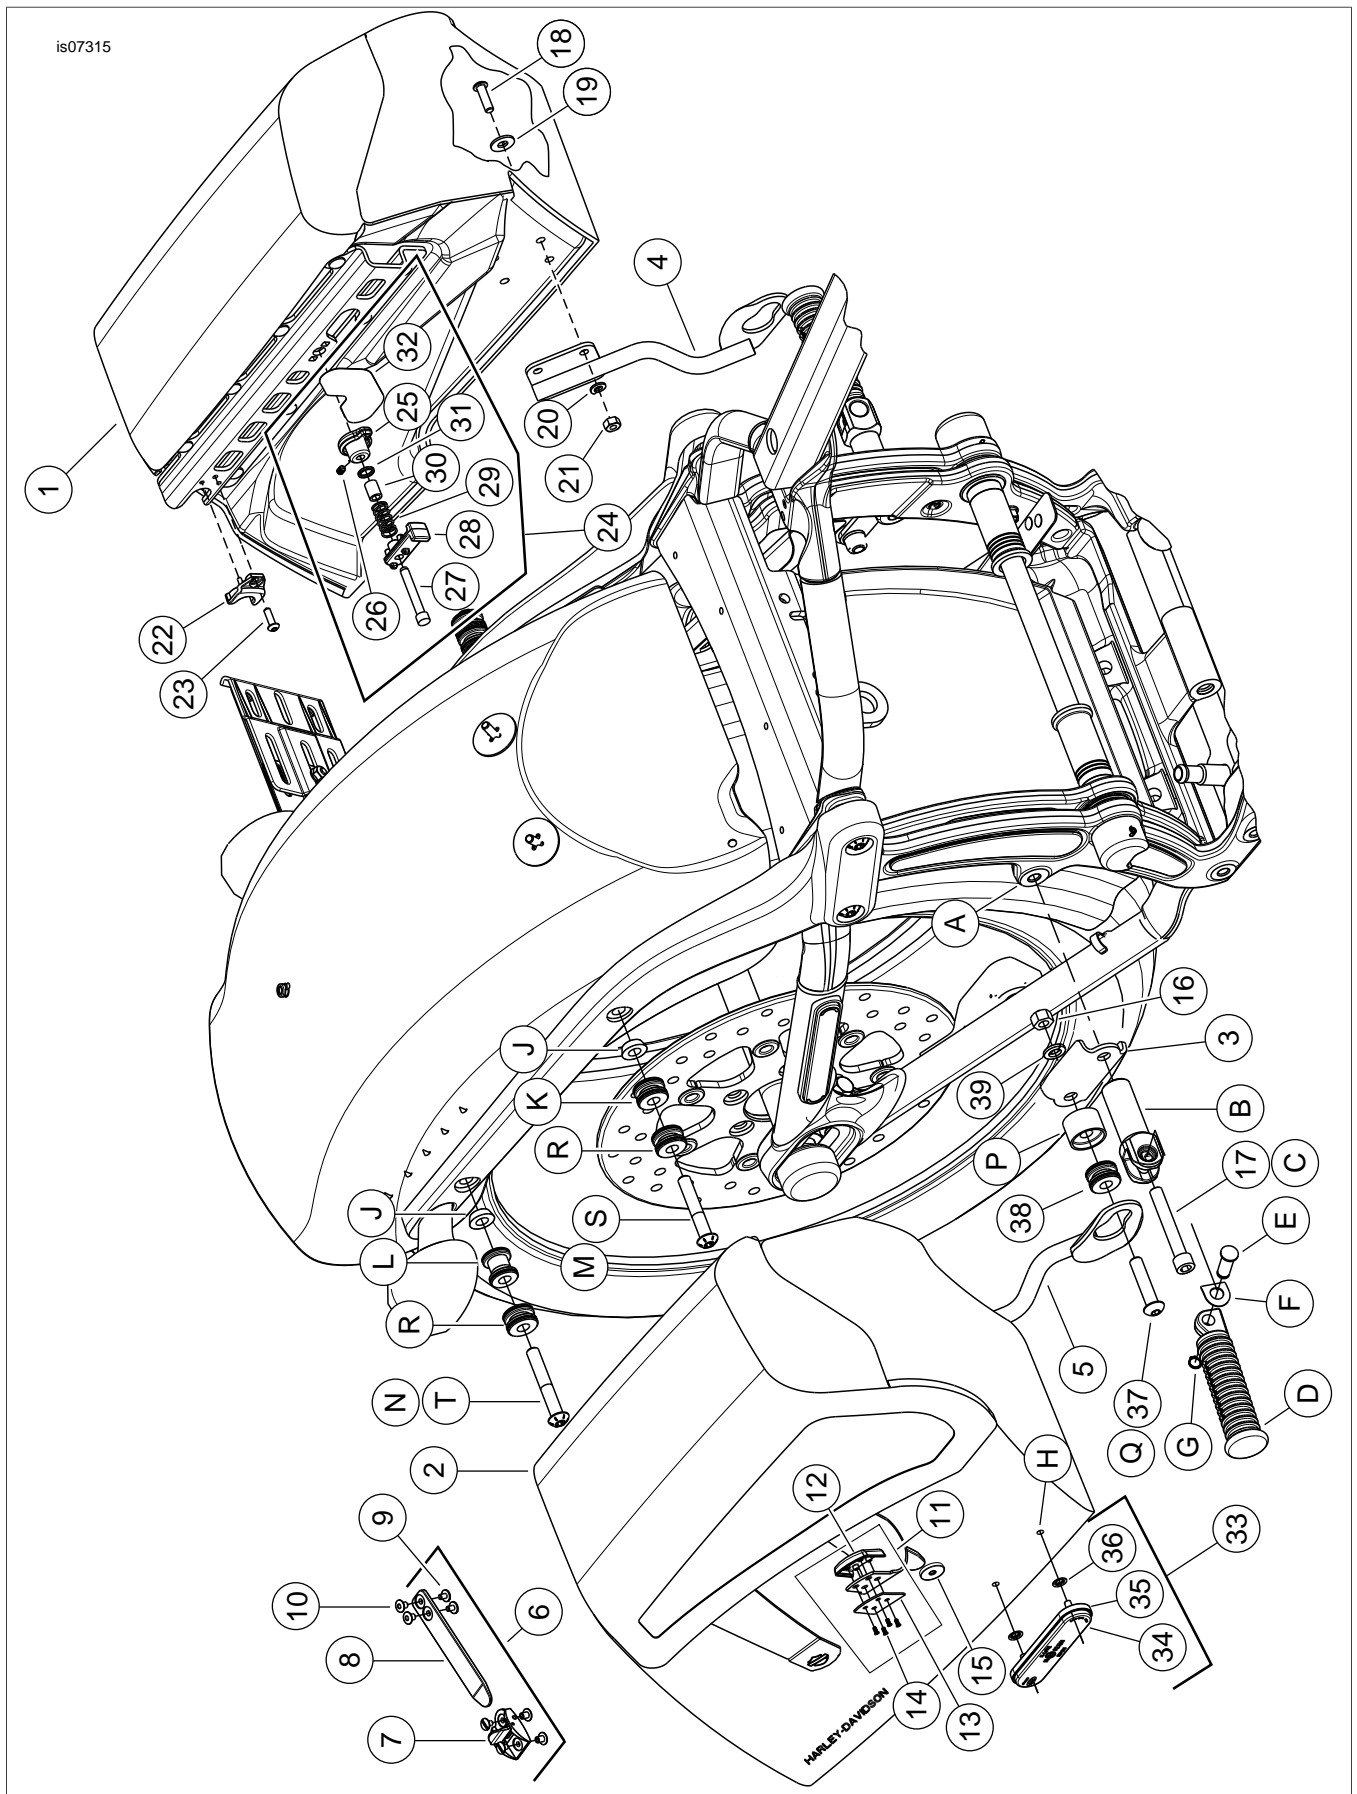

Figure 2. Service Parts: FXSBSE Detachable Saddlebags
2. See Figure 2. Align support arm (4) with the four mounting holes of the left saddlebag (1).
3. Secure support arm (4) to saddlebag (1).
- a. Insert screw (18) through washer (19) and support arm (4) from inside the left saddlebag (1).
- b. Secure the screw with lockwasher (20) and hex nut (21). Tighten finger-tight. Do not fully tighten at this time.
4. Repeat procedure for right saddlebag (2) and support arm (5).
1. See Figure 2. Position reflector mount (35) near either the lower, forward side of saddlebag or rearward, just above the Harley-Davidson® logo.
3. Clean the surface of the reflector mount (35) where reflector will be installed with soapy water or a mixture of 50-70% isopropyl alcohol and 30-50% distilled water. Allow to dry thoroughly.
4. Remove the liner from the adhesive backing of the reflector (34). Carefully position the reflector to the reflector mount, and press firmly into place. Hold the reflector in position with steady pressure for at least one minute.
6. Install reflector mount (35) on saddlebag using two push nuts (36). The push nuts are installed from inside the saddlebag.
1. See Figure 2. Insert the posts of the rear docking spacer (22) into the rear of the saddlebag bracket.
2. Apply a small amount of Loctite 243 - Blue to the threads of screws (23) approximately 1/8-1/4 in (3-6 mm) from the screw head.
2. See Figure 2. Pull on knob (25) (located near the center, inside saddlebag) and rotate it towards front of saddlebag.
- Tighten 3rd point screws (Figure 2, item 18) to 60-90 in-lbs (6.8-10.2 Nm).
- Tighten footpeg mount screws (Figure 2, item 17) to 25-30 ft-lbs (33.9-40.7 Nm).